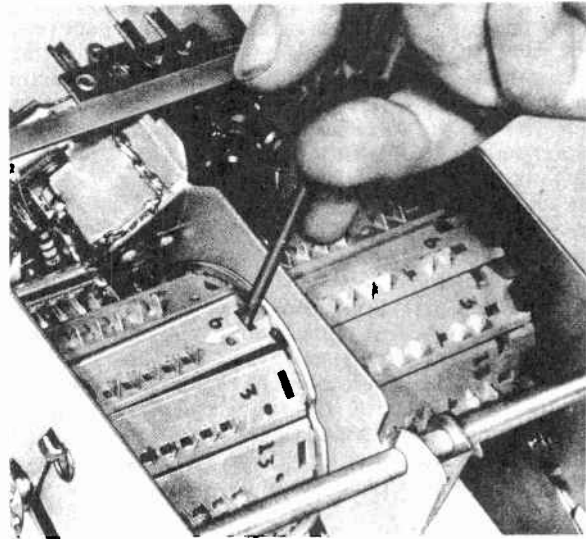

Fig. 13 Removing Channel Strips.
3. Insert a small screwdriver in the slot (See Fig.13). Push in the direction of arrow until the channel strip clears the drum slot then lift straight out in direction of screwdriver shaft. Some strips have a round hole instead of a slot and a pointed tool is used in place of the screwdriver.